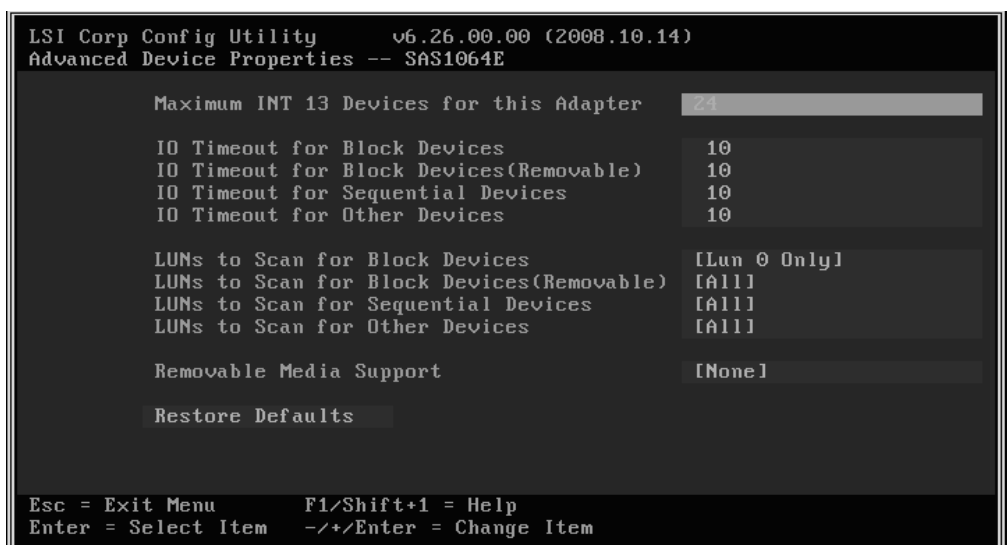

Figure 19. Advanced Device Properties screen
5. Use the arrow keys to select **Advanced Device Properties**, then press Enter. The Advanced Device Properties screen displays as shown in Figure 19.